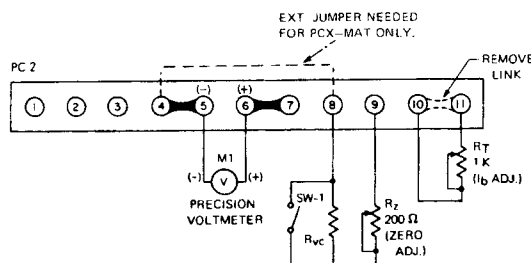

FIG. 3-6 PROGRAMMING RATIO CALIBRATION
- Connect calibration set-up as shown in FIG. 3-6.